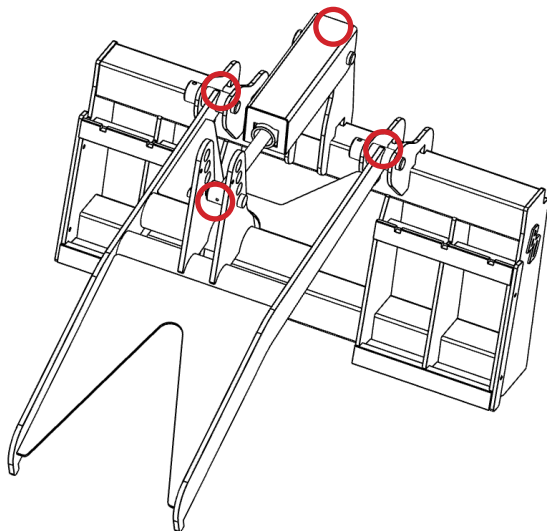

Figure 1
The Grapple Fork has four (4) grease points [Figure 1].